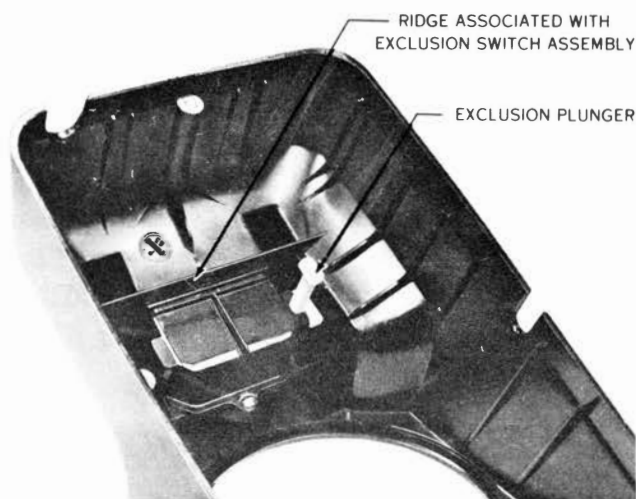

Fig. 1 - Exclusion Plunger
- To replace housing, raise and hold exclusion and switchhook plungers, guide lower front portion of housing over pushbuttons, align housing with base of set, and gently press housing into place. The ridge incorporated in the housing assembly must align with the forks associated with the exclusion switch (Fig. 1). Depress exclusion plunger. With slight pressure it should snap into its unoperated position. Operate exclusion plunger several times to ensure proper functioning. Tighten housing screws in base of set.